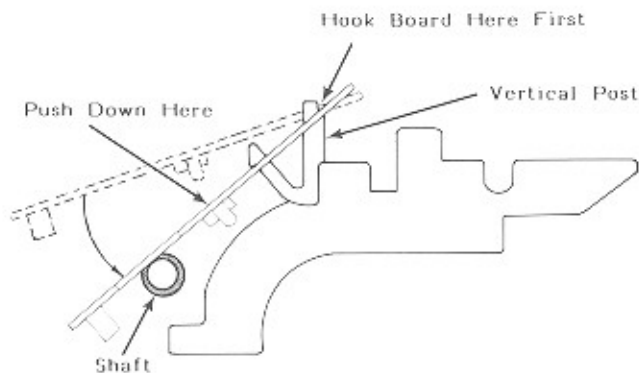

Figure 4-8A.
1. To replace the assembly on the lower track, set the transport upside down. Hook the board over the vertical post; then, push down on the board to snap it over the catch (see figure 4-8A).